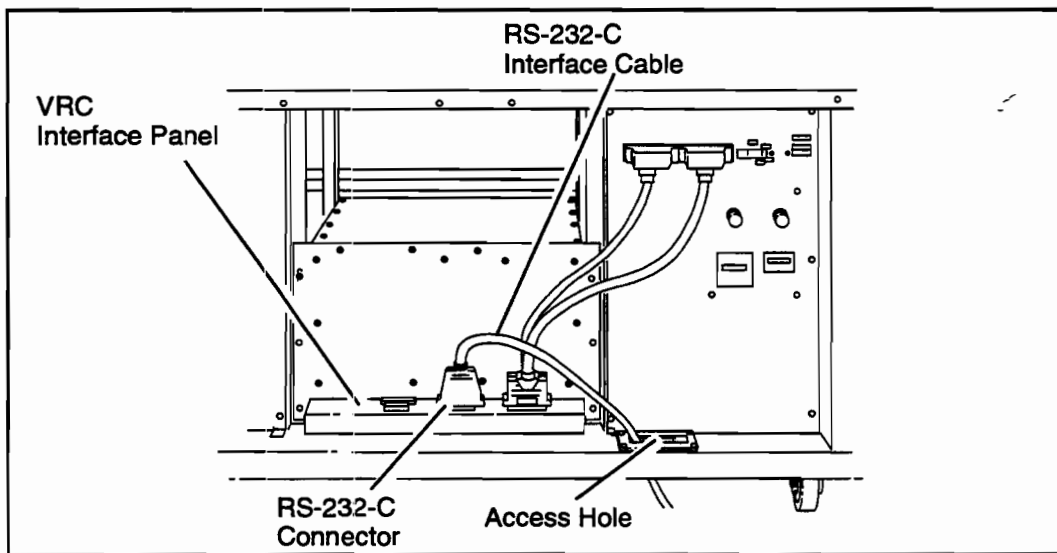
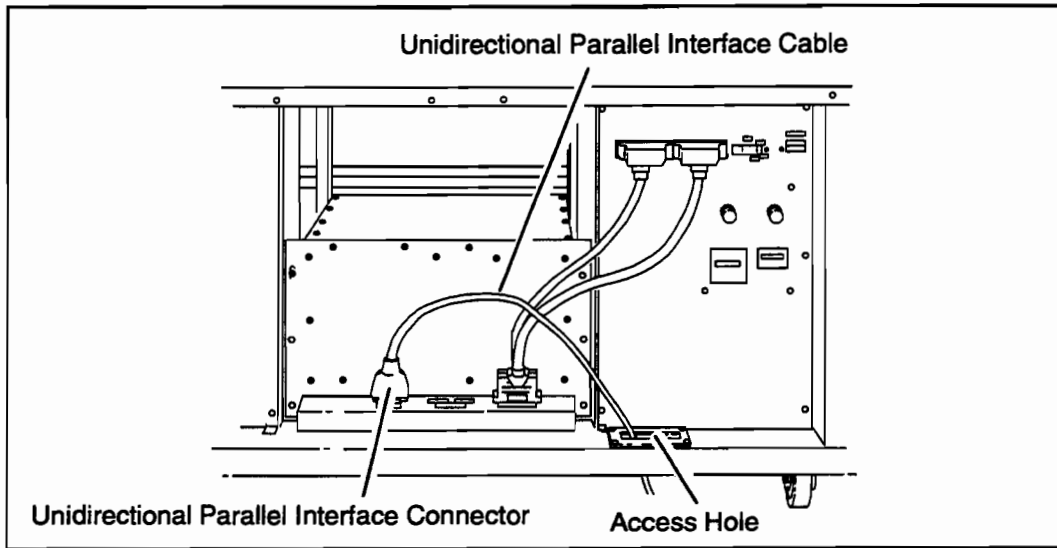
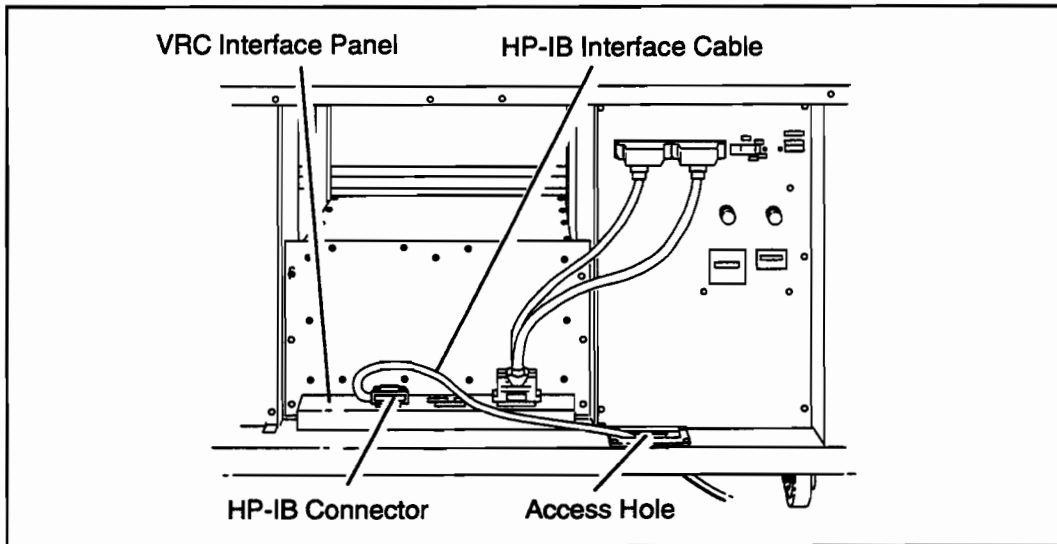

Figure 3-36. RS-232-C Cable Connection
Figure 3-37. Unidirectional Parallel Interface Cable
Figure 3-38. HP-IB Cable Connection
4. Route an RS-232-C, PARALLEL, or HP-IB interface cable from the controller under the print engine and up through the access hole located just inside the front doors as shown in Figure 3-36.
5. Connect the interface cable to the appropriate connector on the front of the VRC as shown in Figure 3-36, Figure 3-37, or Figure 3-38.